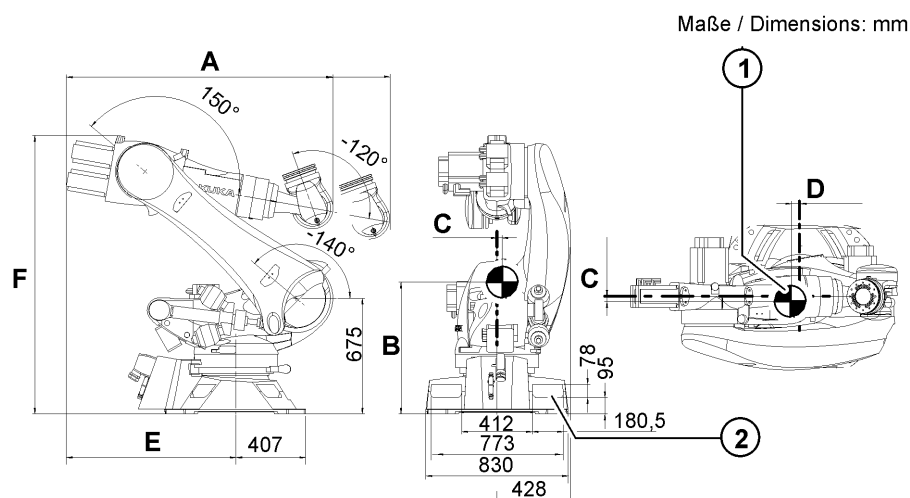

Fig. 4-9: Transport dimensions
The transport dimensions (>>> Fig. 4-9) for the robot (1) can be noted from the following diagram. The position of the center of gravity (2) and the weight vary according to the specific configuration. The specified dimensions refer to the robot without equipment. The following diagram shows the dimensions of the robot when it stands on the floor without wooden transport blocks.